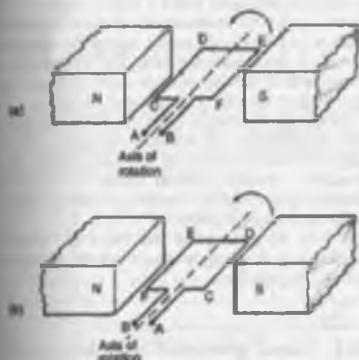

Figure 22.1
In an electric motor, conductors rotate in a uniform magnetic field. A single-loop conductor mounted between permanent magnets is shown in Fig. 22.1. A voltage is applied at points A and B in Fig. 22.1(a)
the other acting vertically upwards due to the current flowing from E to F (from Fleming's left hand rule). If the loop is free to rotate, then when it has rotated through 180° , the conductors are as shown in Fig. 22.1(b). For rotation to continue in the same direction, it is necessary for the current flow to be as shown in Fig. 22.1(b), i.e. from D to C and from F to E. This apparent reversal in the direction of current flow is achieved by a process called *commutation*. With reference to Fig. 22.2(a), when a direct voltage is applied at A and B, then as the single-loop conductor rotates, current flow will always be away from the commutator for the part of the conductor adjacent to the N-pole and towards the commutator for the part of the conductor adjacent to the S-pole. Thus the forces act to give continuous rotation in an anti-clockwise direction. The arrangement shown in Fig. 22.2(a) is called a 'two-segment' commutator and the voltage is applied to the rotating segments by stationary brushes, (usually carbon blocks), which slide on the commutator material, (usually copper), when rotation takes place.
- (iii) field windings, i.e. many turns of a conductor wound round the pole core; current passing through this conductor creates an electromagnet, (rather than the permanent magnets shown in Fig. 22.1 and 22.2),